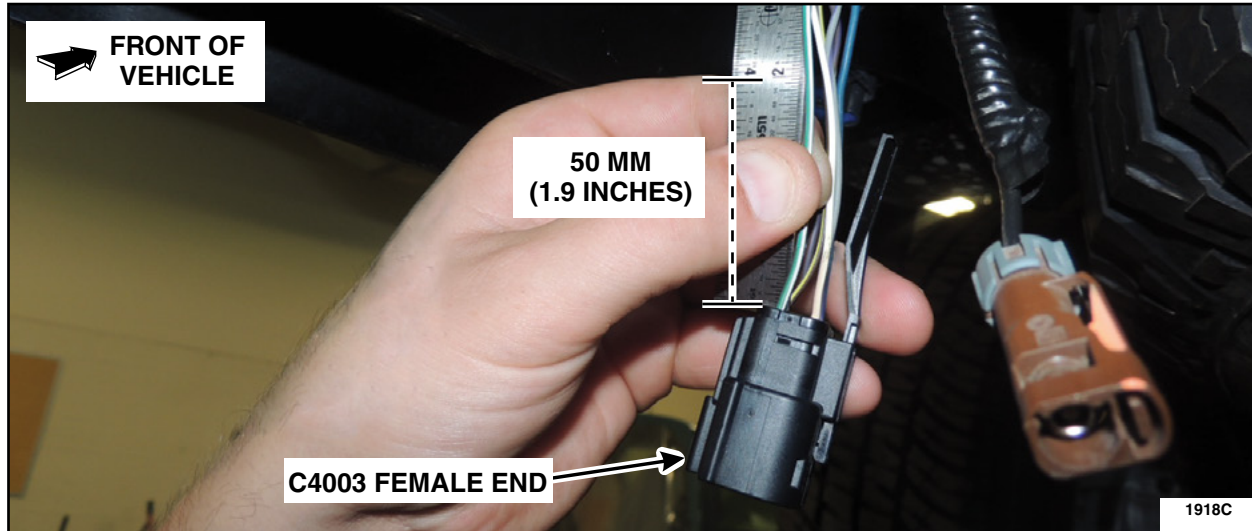

FIGURE 5
8. Cut the Green-White (GN-WH) wire (cavity 1) 50 mm (1.9 in) from the back side of the C4003 female end. See Figure 5.